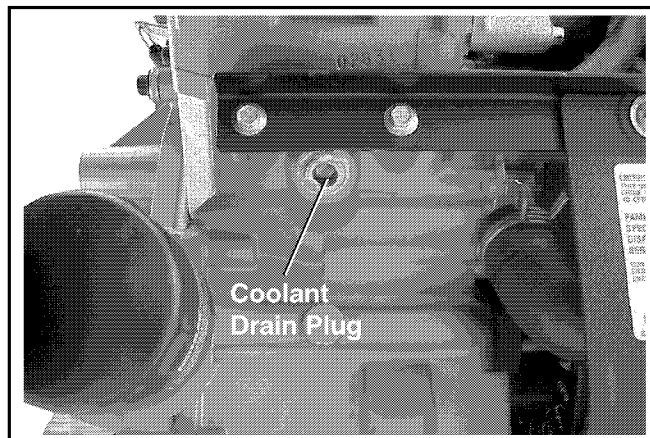

Figure 11. Coolant Drain Plug (Oil Filter Side).
3. Remove the coolant drain plugs located on each side of the engine block. See Figure 11. Drain the coolant into a suitable container. After the coolant has drained completely, apply pipe sealant with Teflon® (Loctite® No. 592 or equivalent), to the threads and reinstall the plugs. Torque the two plugs to 13.5 N·m (120 in. lb.).